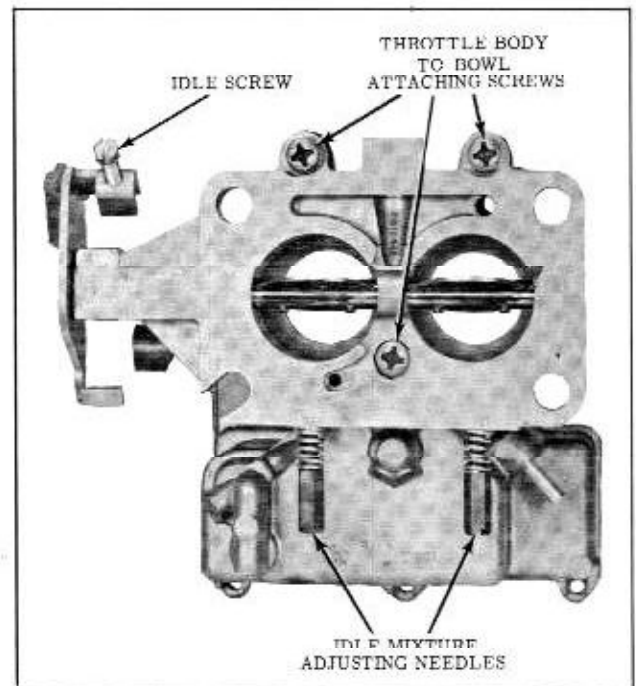

Fig. 8-78 Throttle Body
- Invert float bowl and remove 3 throttle body attaching screws, then remove the throttle body and gasket. (Fig. 8-78)
1. If removed, install the idle speed screw. (Fig. 8-78)